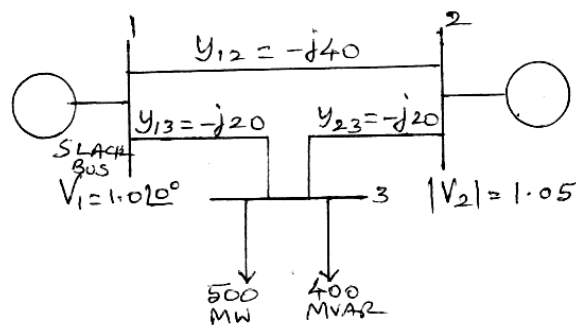

Figure 16 (a)
16. (a) Figure 16 (a) shows the one line diagram of a simple three bus power system with generation at buses 1 and 2. The voltage at bus 1 is $V = 1 + j0.0$ V per unit. Voltage magnitude at bus 2 is fixed at 1.05 pu. with a real power generation of 400 MW. A Load consisting of 500 MW and 400 MVAR base. For the purpose of hand calculation, line resistance and line charging susceptances are neglected.